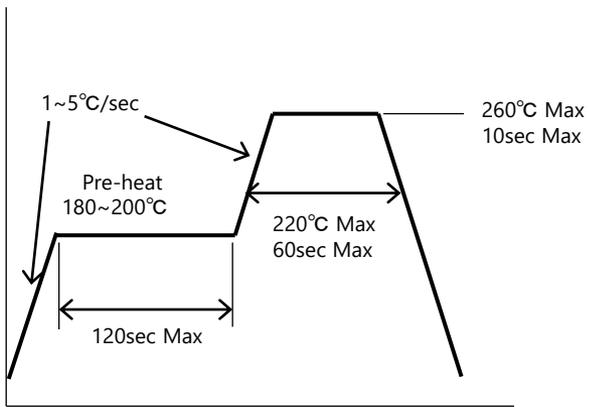

Figure 7. Recommended Reflow Soldering Condition (Lead-free Solder)
2. Nichia recommends using the reflow soldering conditions detailed in Figure 7 to the left; use the recommended reflow conditions specified by the manufacturer of the solder paste being used if it works better for the chosen application.